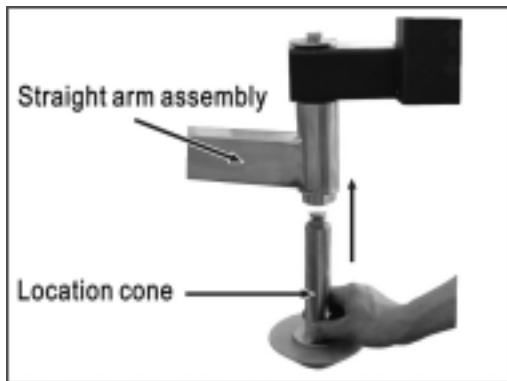

Fig.19
- Take out the cone, assemble it on fore swivel arm as in fig.19.